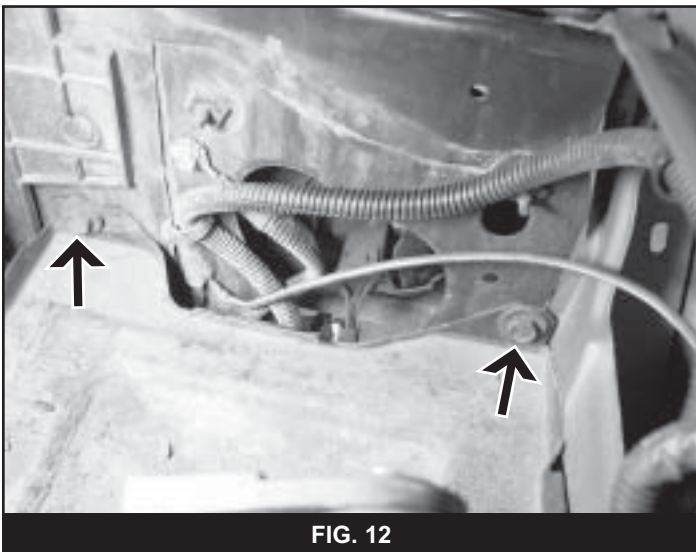

FIG. 12
22. 4wd only: Remove the two bolts mounting the battery tray to the core support and remove the battery tray from the vehicle (Fig 12).